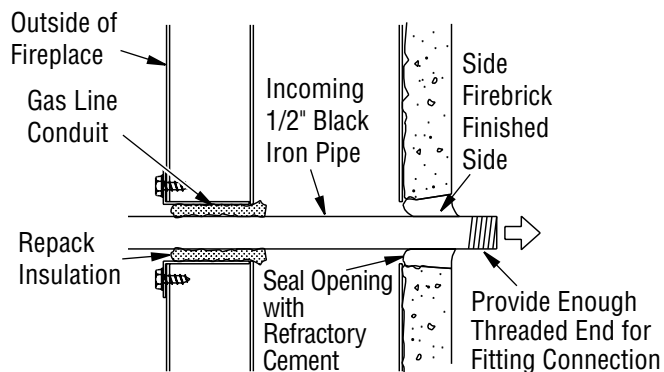

Figure 23 - Gas Line Installation
3. Run a 1/2" black iron gas line into fireplace through rear of gas line conduit sleeve (if using a raised platform, add height). Provide sufficient gas line into fireplace chamber for fitting connection (see **Figure 23**).